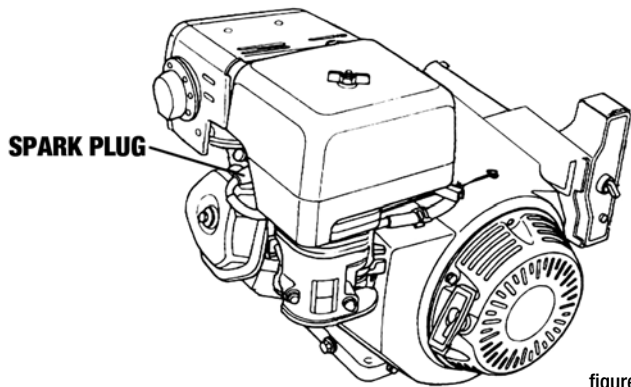

figure 7.1
3. Remove the wire connected to the spark plug. And remove the spark plug from the engine. (See figure 7.1)